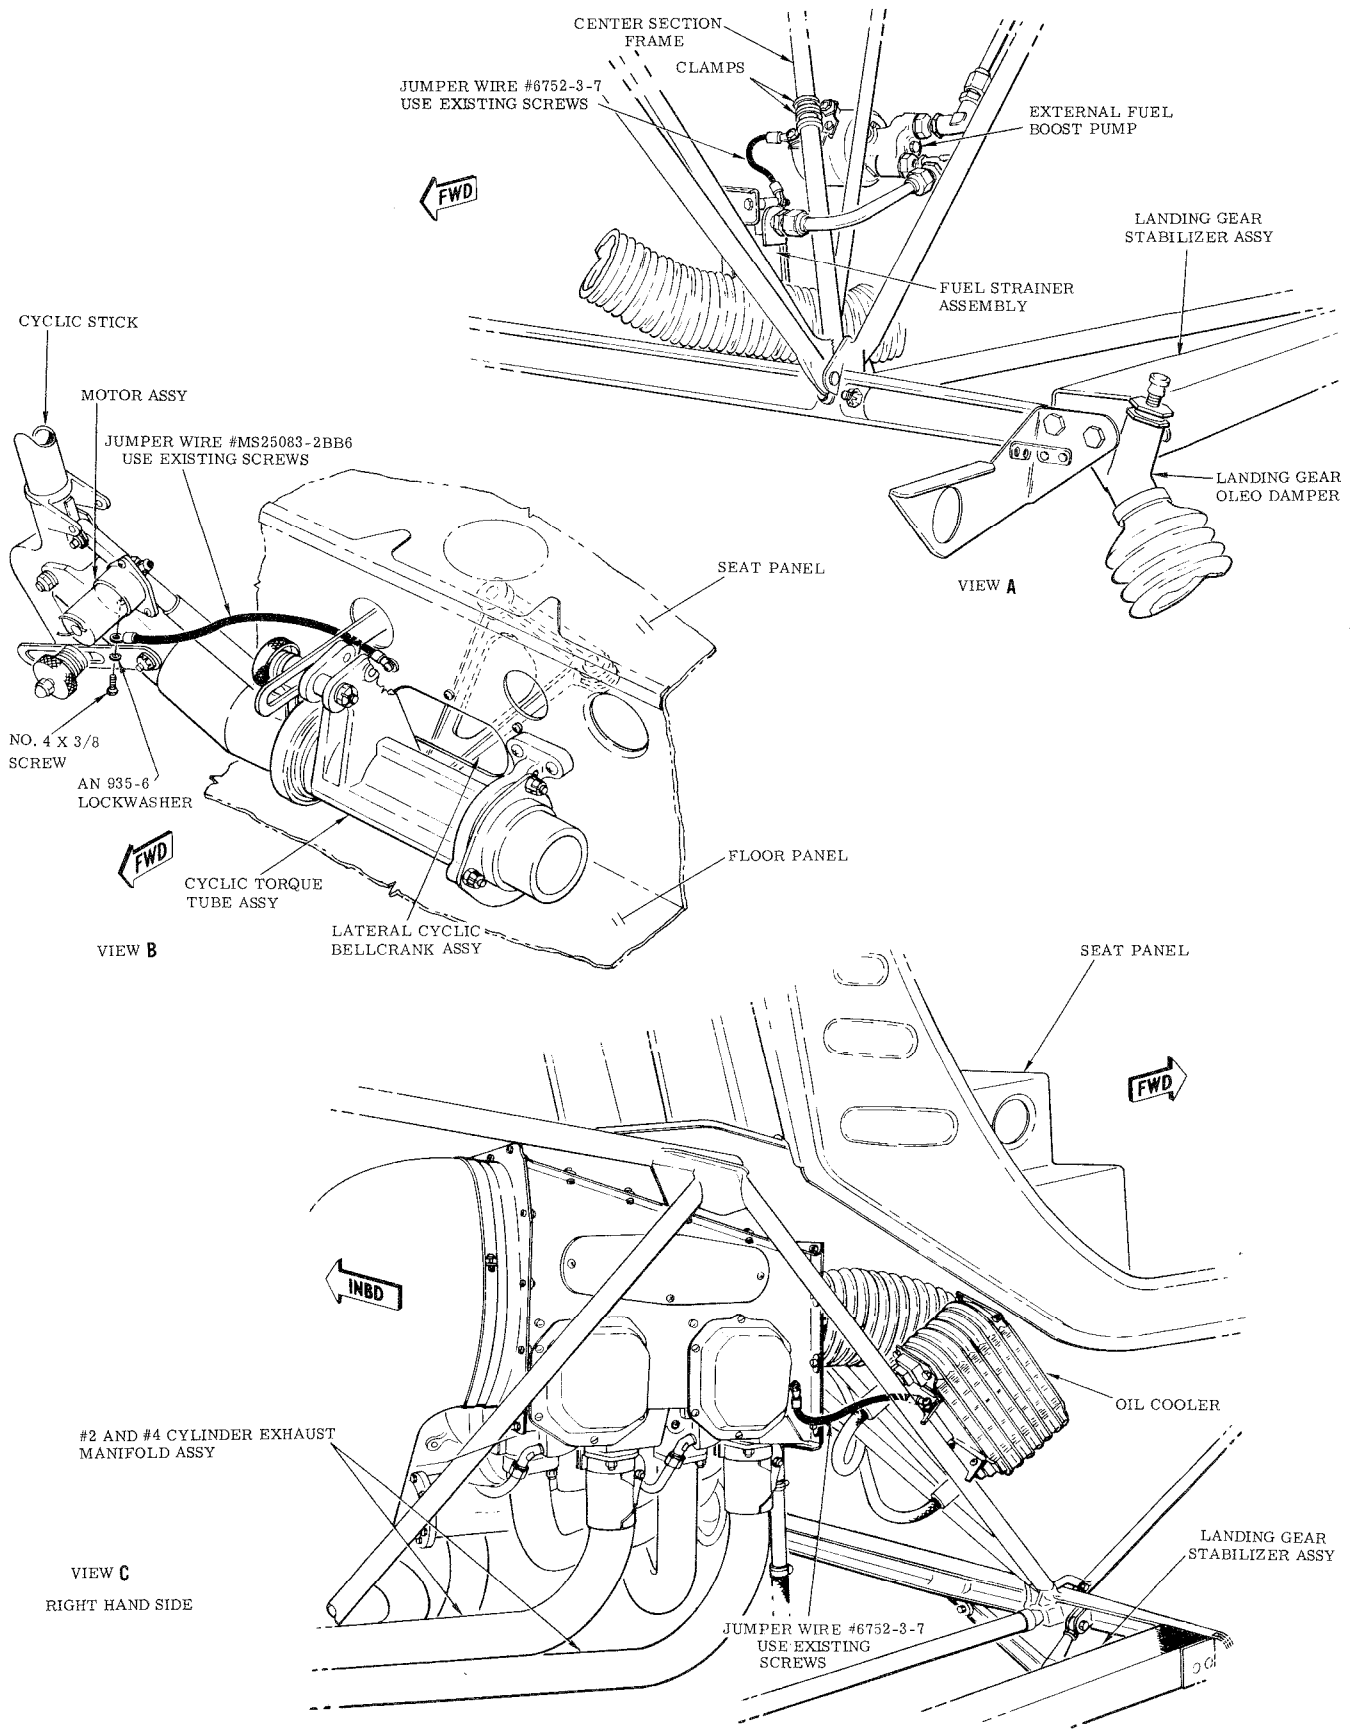

FIGURE 1. INSTALLATION-JUMPER WIRES
- a. Install jumper assembly to fuel strainer mounting bracket on center frame section, and to clamp securing external fuel boost pump to frame tube. (See View A, Figure 1)
- b. Install jumper assembly to housing of cyclic stick lateral trim motor, and to seat panel. (See View B, Figure 1)
- c. Install jumper assembly to aircraft engine and to engine oil cooler support on frame tube. (See View C, Figure 1)